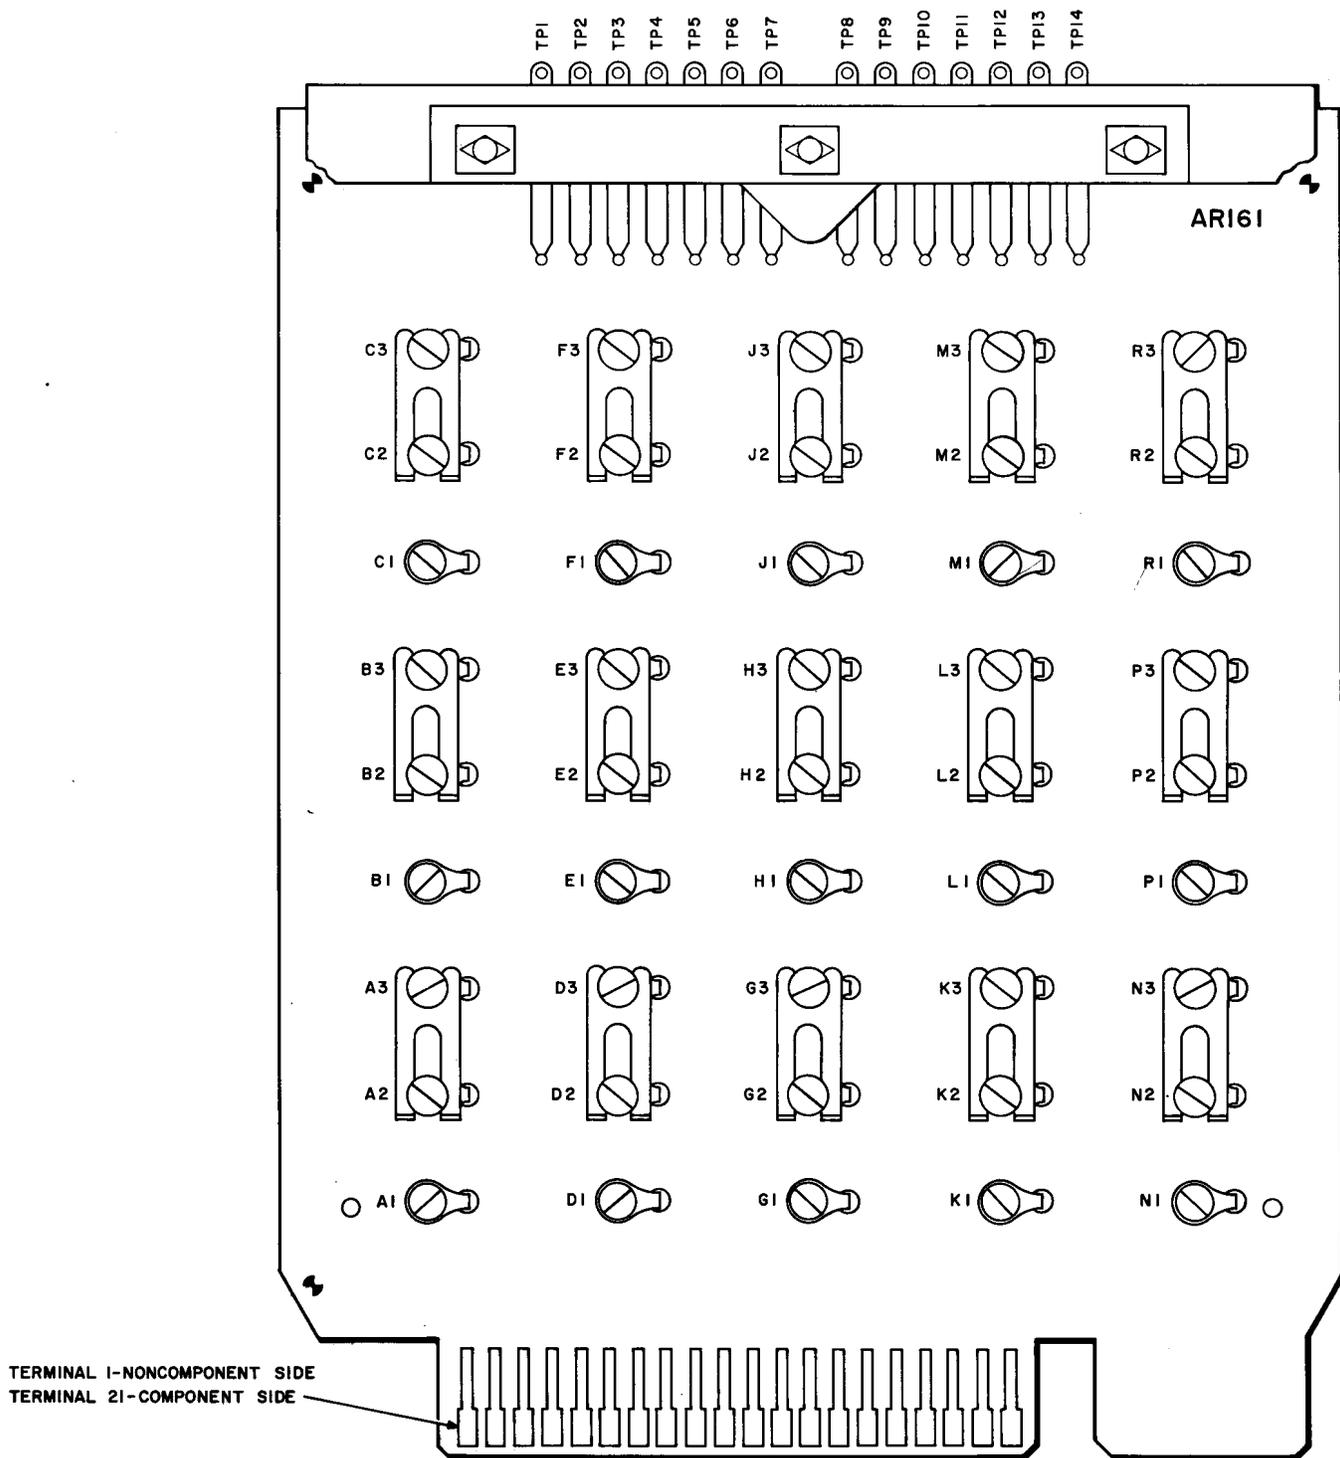

Fig. 3—Circuit Pack AR161 (Strap Circuit) Board
**3.10** Remove the circuit pack retaining bar from the "C" nest. Use the extracting tool and carefully remove the AR161 circuit pack from location C21. The AR161 (strap circuit) board is illustrated in Fig. 3, and the functions accomplished through the shorting straps are tabulated in Table A. Position the shorting straps as instructed by the service order. After the circuit pack is properly conditioned, carefully return it to the original location and remove the extracting tool.
**3.26** Remove the circuit pack retaining bar from the "C" nest. Use the extracting tool and carefully remove the AR161 circuit pack from location C21. The AR161 (strap circuit) board is illustrated in Fig. 3. The functions performed through the straps on the AR161 (strap circuit) board are tabulated in Table A. Two regeneration configurations are available to meet all requirements. One configuration is provided for a regenerator consisting of two Data Sets 207-type. The remaining configuration provides for a Data Set 207-type to operate with a non-207 companion modem. Definite strapping requirements are tabulated in Table E for each configuration. The remaining straps shall be connected as specified on the service order. After the board is properly conditioned, carefully return it to the original location and remove the extracting tool.